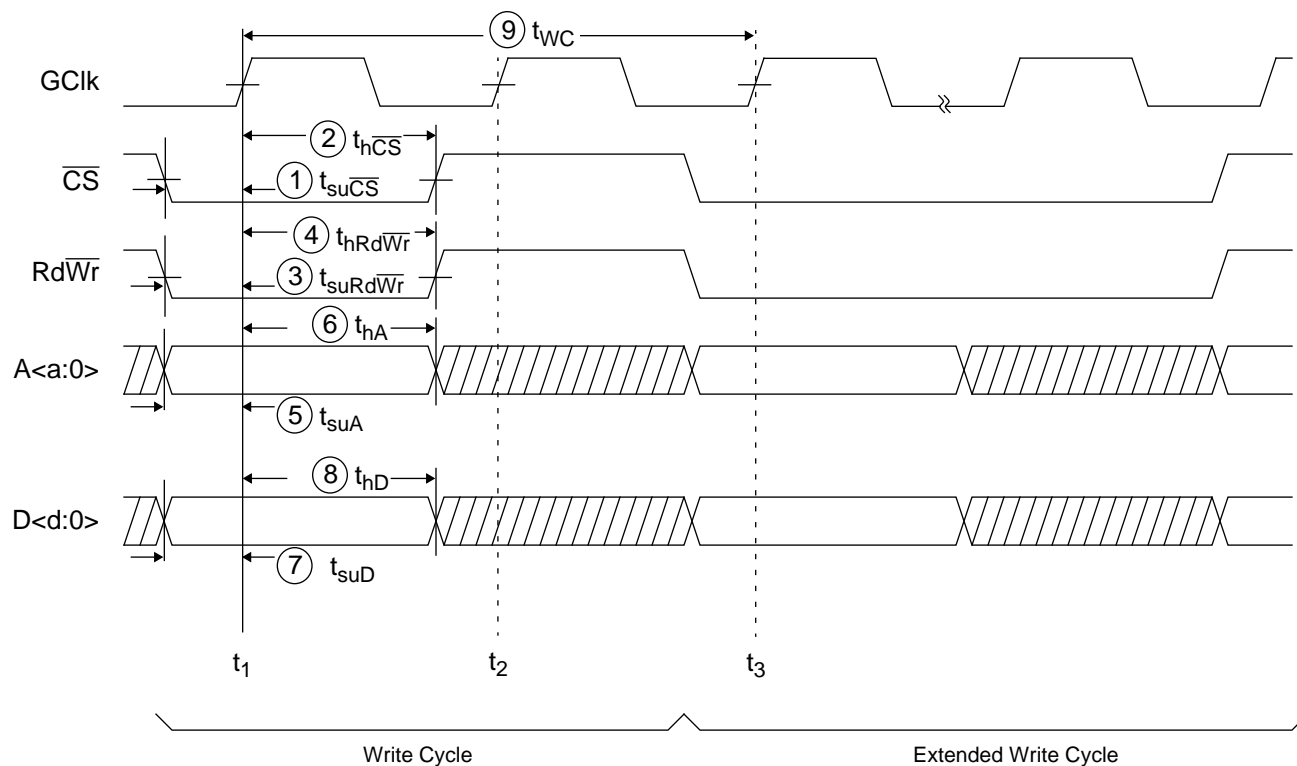

Figure 30. Configuration Memory Write Cycles
5. After a modification to any of the Map Register bits, it is not safe to perform register writes or reads for  $T_{MPST}$ . This is measured from the first falling clock edge of the Map Register Write Cycle to the **second** rising clock edge of the next register access ( $t_2$  in Figures 30 and 31).